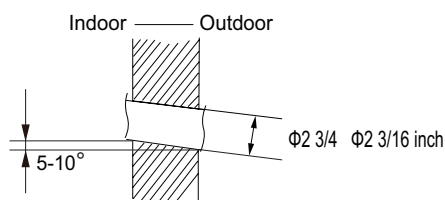

Fig.2
(2) Open a piping hole with the diameter of $\Phi 2 \frac{3}{4}$ $2 \frac{3}{16}$ inch on the selected outlet pipe position. In order to drain smoothly, slant the piping hole on the wall slightly downward to the outdoor side with the gradient of $5-10^\circ$. (As show in Fig.2)